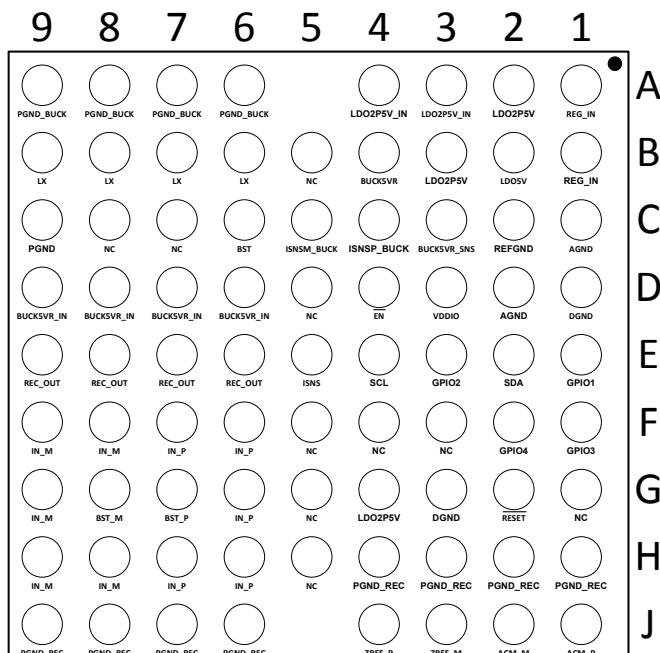

Figure 4. WLCSP-79, 4.095x3.898mm -9x9, 0.4 mm Pitch
Table 5. WLCSP Ball Functions by Pin Number (See Figure 4)
Table 5. WLCSP Ball Functions by Pin Number (Continued, see Figure 4)
**Table 5. WLCSP Ball Functions by Pin Number (Continued, see Figure 4)**